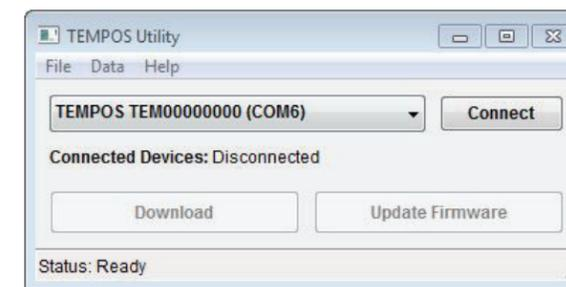

Figure 26 TEMPOS Utility downloader
5. Click the Update Firmware button in the TEMPOS Utility screen (Figure 26).
Once the downloader is installed, TEMPOS Utility will open a new window (Figure 26). The software can now be used to download data from TEMPOS.
2. Once connected, the controller serial number will appear in the TEMPOS Utility dropdown (Figure 26).
5. Press Download to download the data stored on the controller (Figure 26).